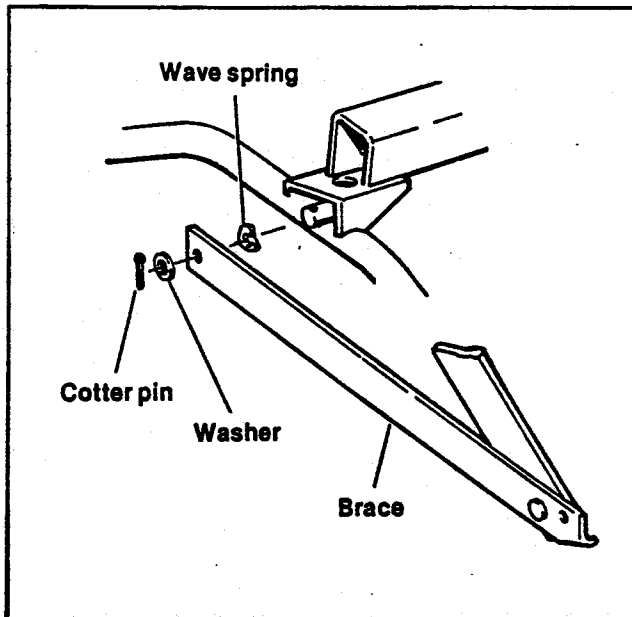

Figure 9-7. Body Side Brace
3. See Figure 9-7. Remove the cotter pin, washer, brace and wave spring from each side of frame and then lower body to its original position.
4. See Figure 9-7. Install a wave spring and brace on each side of the frame and secure with a flat washer and cotter pin.